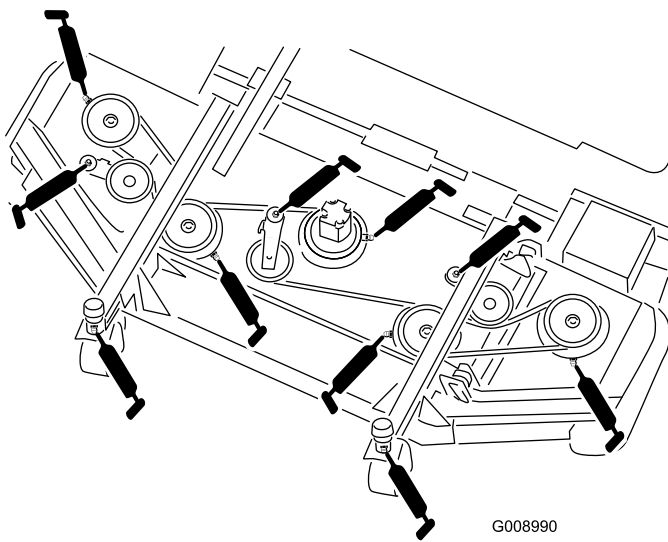

Figure 54
- 2 castor fork shaft bushings (Figure 54)
- 5 spindle shaft bearings (located on spindle housing) (Figure 54)
- 3 idler arm pivot bushings (located on the idler pivot shaft) (Figure 54)